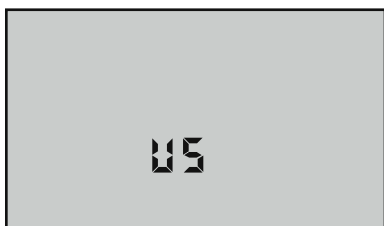

Figure 16
3. Press $\frac{\text{CAL}}{\text{MCLR}}$ to change. Display will now indicate other format (see Figures 16 & 17).